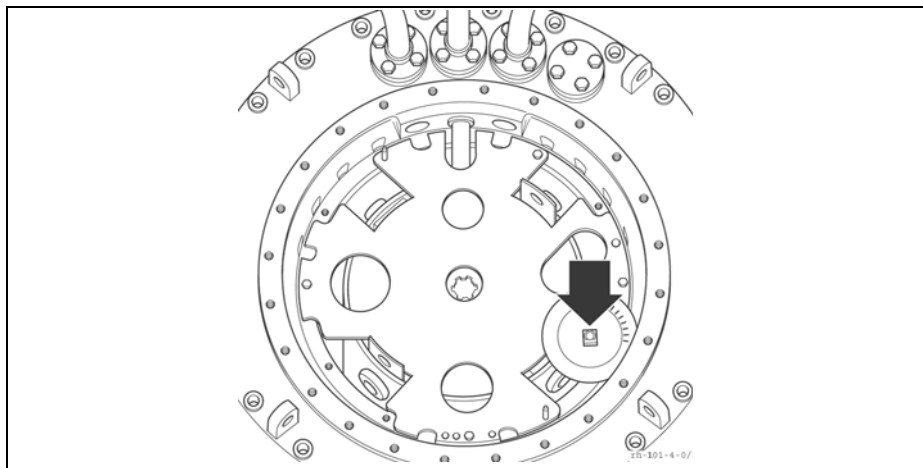

Figure 16 Tap position indicator disc
3. Remove the tap position indicator disc (pull off the spring clip from the shaft end, **Figure 16**).